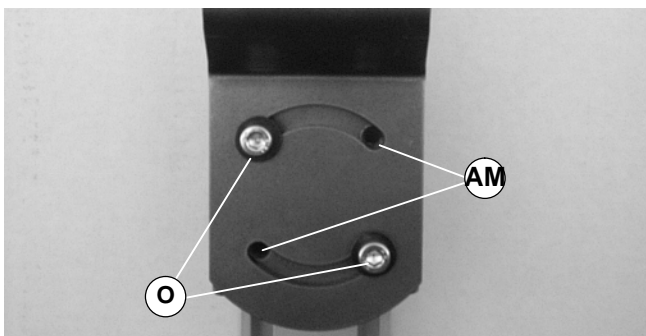

Figure 18
NOTE: To rotate conveyor mounting bracket (N of Figure 19), screws (O of Figure 18) may need to be re-located to holes (AM).